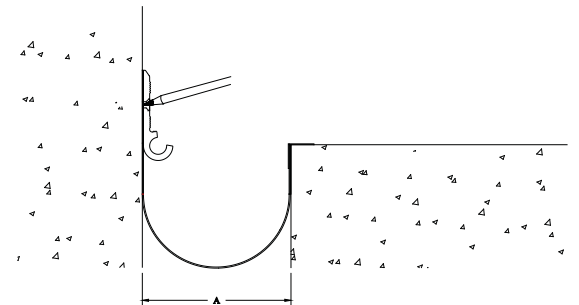

Figure 7
**STEP 7.** Select a section of the wall base member. Place the wall base member into its installed position. Ensure that it is straight, level, and properly aligned. Using the wall base member as a template, mark the location for the anchor holes on the concrete, see Figure 7. Remove the wall base member from its position and drill the anchor holes at the marked locations.